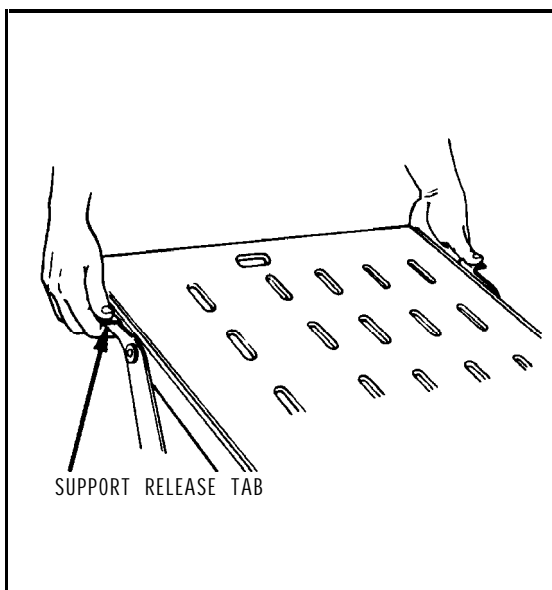

Figure S-33a Version Number 1
- \* On version number 1, hold the assembly as shown in Figure S-33a. While your fingers are supporting the magazine assembly on the bottom side, press down on the support release tabs with your thumbs and lower the magazine back into the vending position.
Your hands must be in the position shown in Figure S-33a. In addition, continue to hold the magazine assembly until it has been fully lowered. You may be injured if you do not follow this procedure.